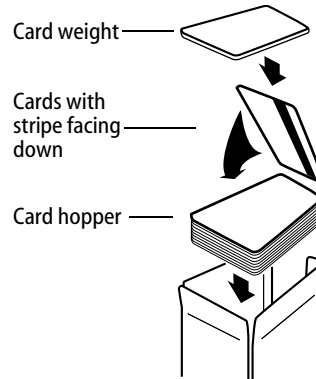

Figure 2 Loading magnetic stripe cards into the card hopper
- Open the cabinet and load blank cards into the encoder hopper as shown on the label attached to the card hopper. See Figure 2.